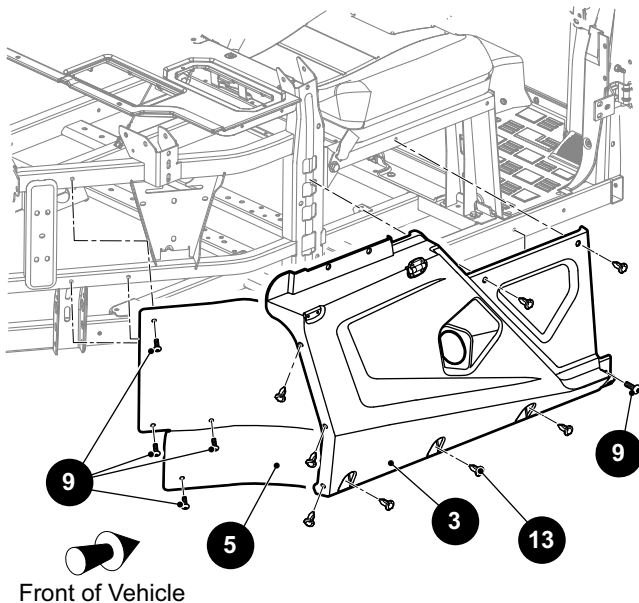

Fig. 6 Side Panel and Rear Fender Liner
2. Remove the screw (9) and plastic rivets (13) that secure the side panel (3) to the frame (See Fig. 6). Remove the side panel.
3. Remove the screws (9) that secure the rear fender liner (5) to the frame. Remove the rear fender liner.